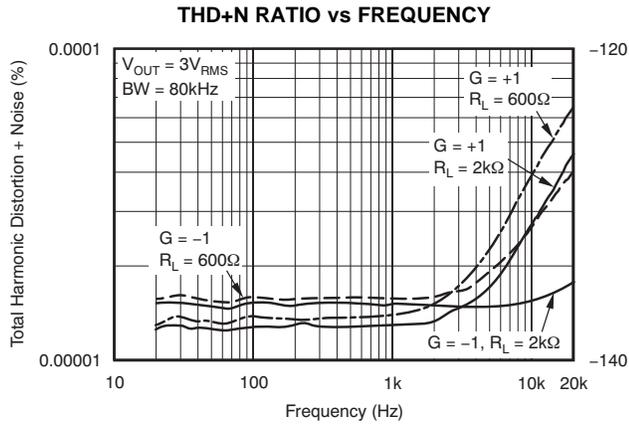
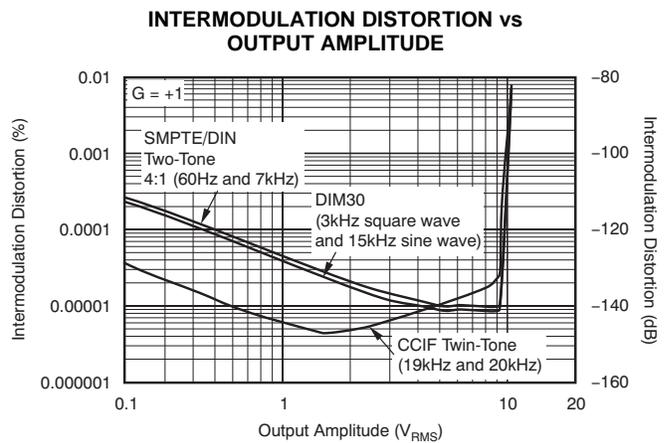

Figure 7.
Figure 12.
The OPA161x series op amps have excellent distortion characteristics. THD + Noise is below 0.00008% ($G = +1$, $V_O = 3V_{RMS}$, $BW = 80kHz$) throughout the audio frequency range, 20Hz to 20kHz, with a 2k Ω load (see Figure 7 for characteristic performance).
(1) For measurement bandwidth, see Figure 7 through Figure 12.